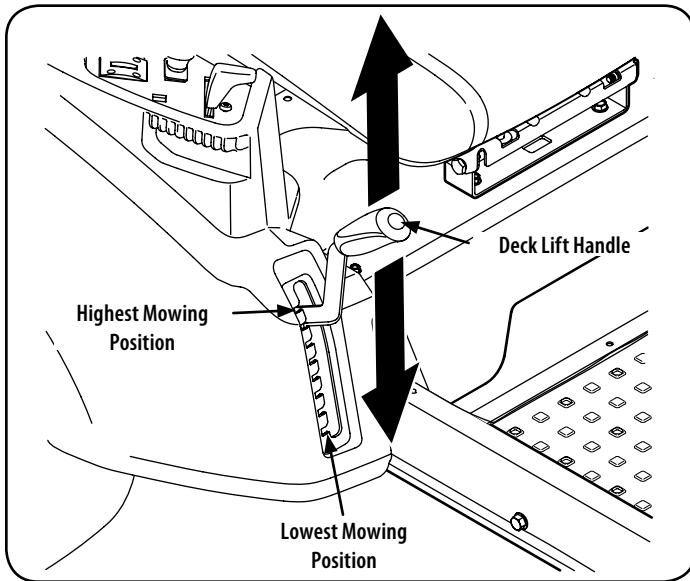

Figure 24
- Using the deck lift handle, raise the deck to the position that provides the most horizontal run of the belt between the deck idler pulleys and the PTO pulley on the bottom of the engine. See Figure 24.
- Lower the deck into the lowest position using the deck lift handle. See Figure 24.
- Place the deck lift handle in the highest mowing position See Figure 24.